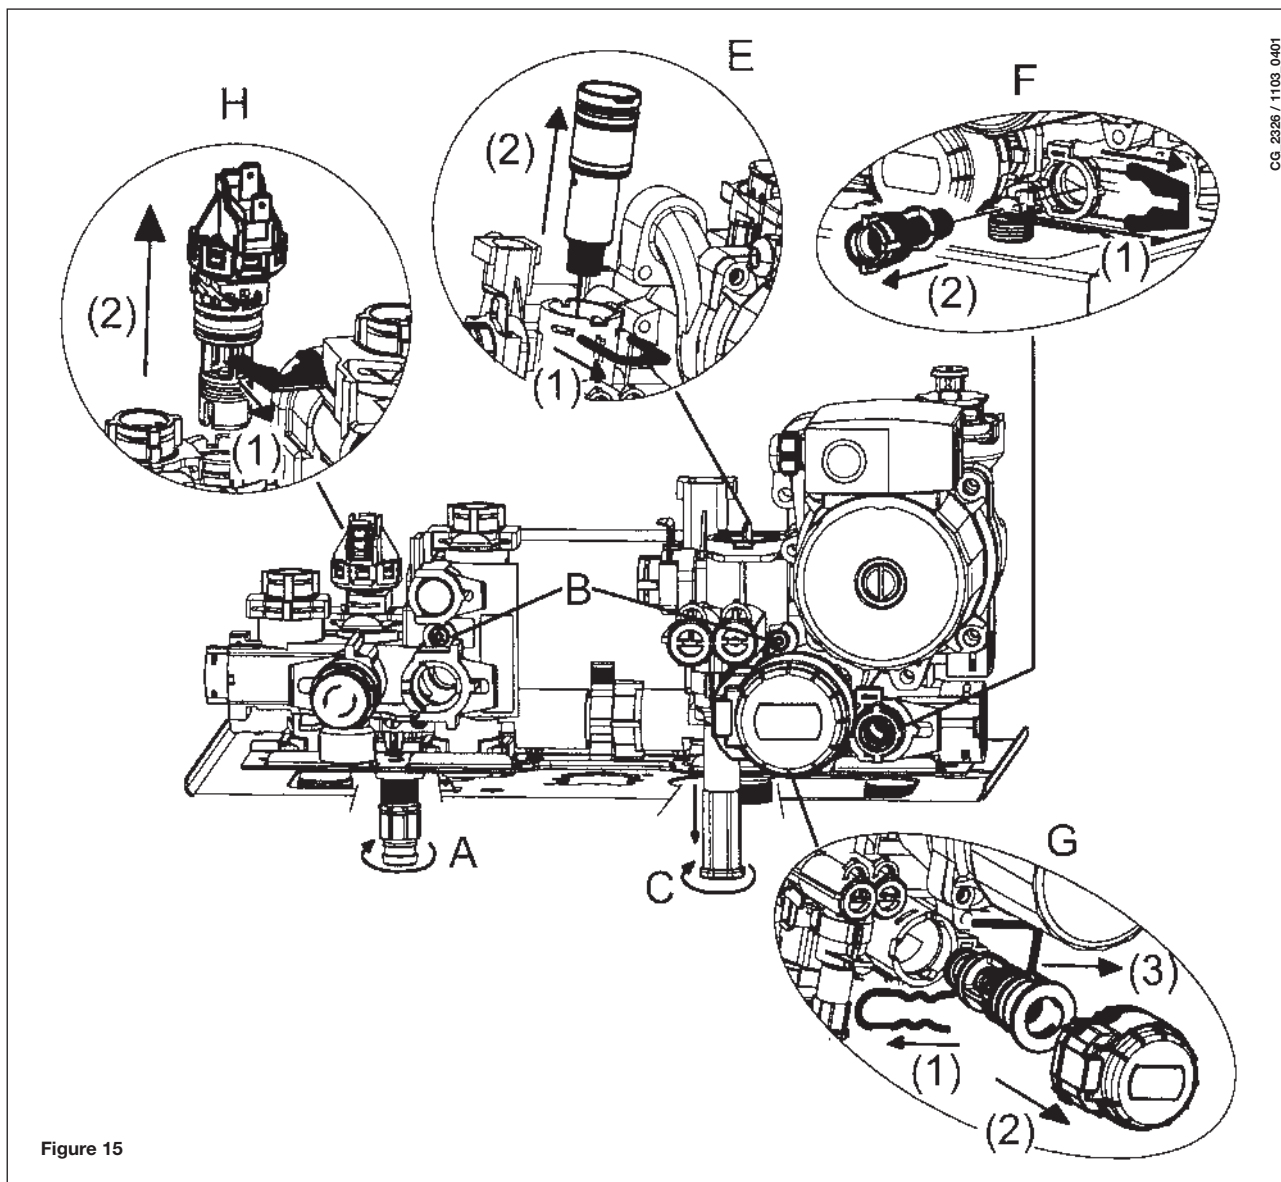

Figure 15
- drain the water in the CH circuit by opening tap A in figure 15.
- to extract the heating filter cartridge, first remove the 3-way valve motor (1-2G - figure 15);
- Remove the clip 1E in figure 15.
- Remove the filter (2E figure 15).